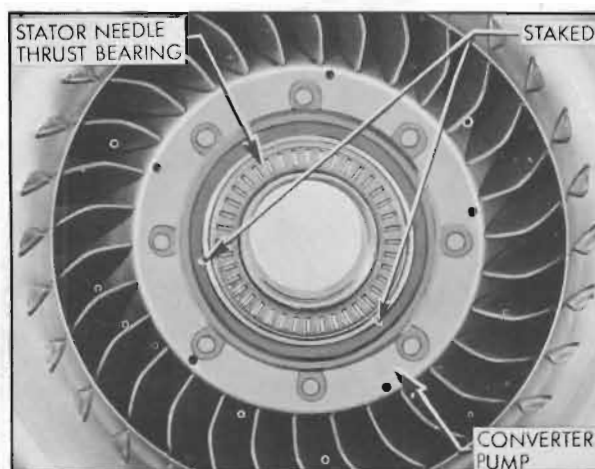

Figure 5-49—Stator Needle Thrust Bearing
3. Inspect converter pump and turbines for cracked or distorted vanes. Inspect turbine carrier, planetary gear teeth, thrust washers, bushings and related bearing surfaces for excessive wear, scoring or other damage. Examine stator needle thrust bearing staked in converter pump. See Figure 5-49. If bearing is damaged or worn excessively, carefully drive back the outer staking and remove the bearing. A new bearing assembly should be staked in very lightly, only enough to keep the bearing from falling out.